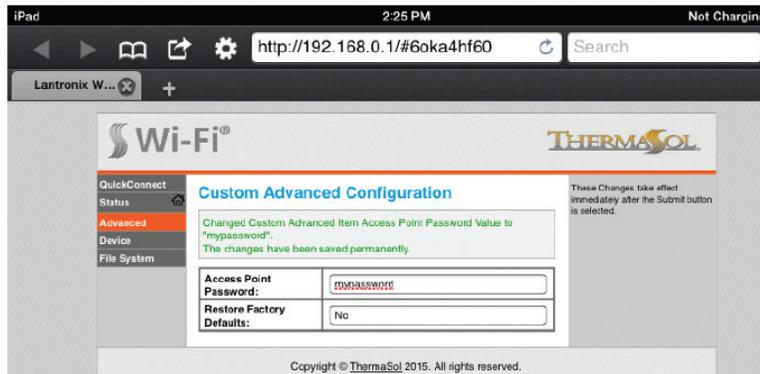

Figure 3: Password protection for direct connect mode
4. Enter your own password for the access point and then press submit. The change will be confirmed as shown below in Figure 3